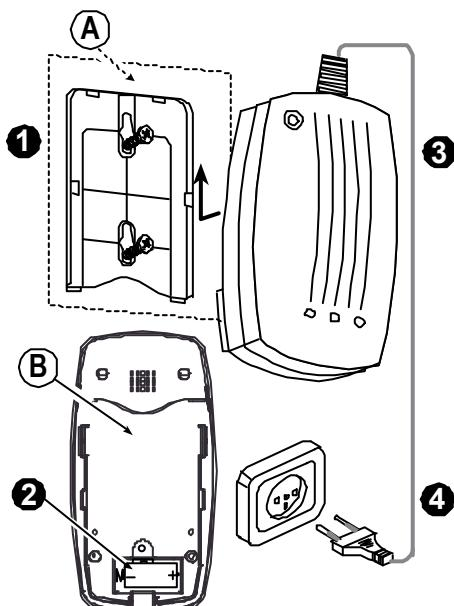

Figure 4 – Installing the GSD-441 PG2
- i) Insert the battery (see Figure 4) to enroll the gas detector.